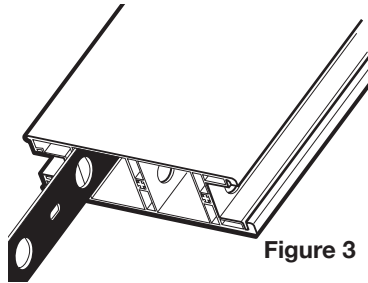

Figure 3
Lay one of the Stiles (A) onto work surface. Make sure the side with the large holes are facing outward. Insert one of the Reinforcement plates (B) into the bottom of the Stile into the innermost chamber of the Stile. See Figure 3.